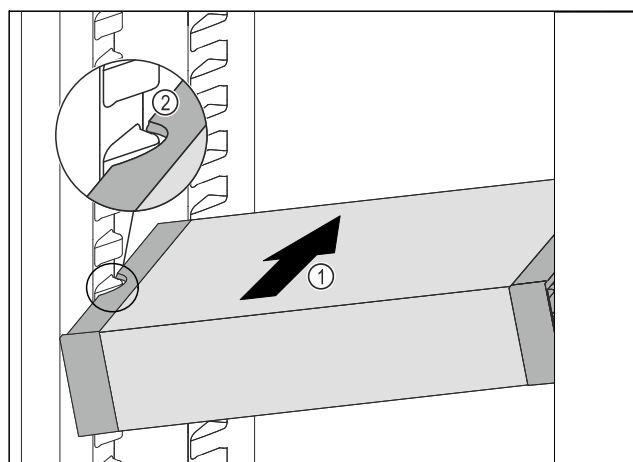

Fig. 90
- Insert the VarioSafe into the refrigerator compartment at an angle *Fig. 90 (1)* until the recesses in the side *Fig. 90 (2)* of the VarioSafe are at the level of the support rib in the refrigerator compartment.